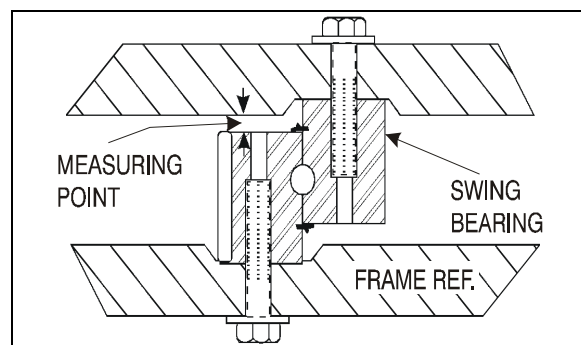
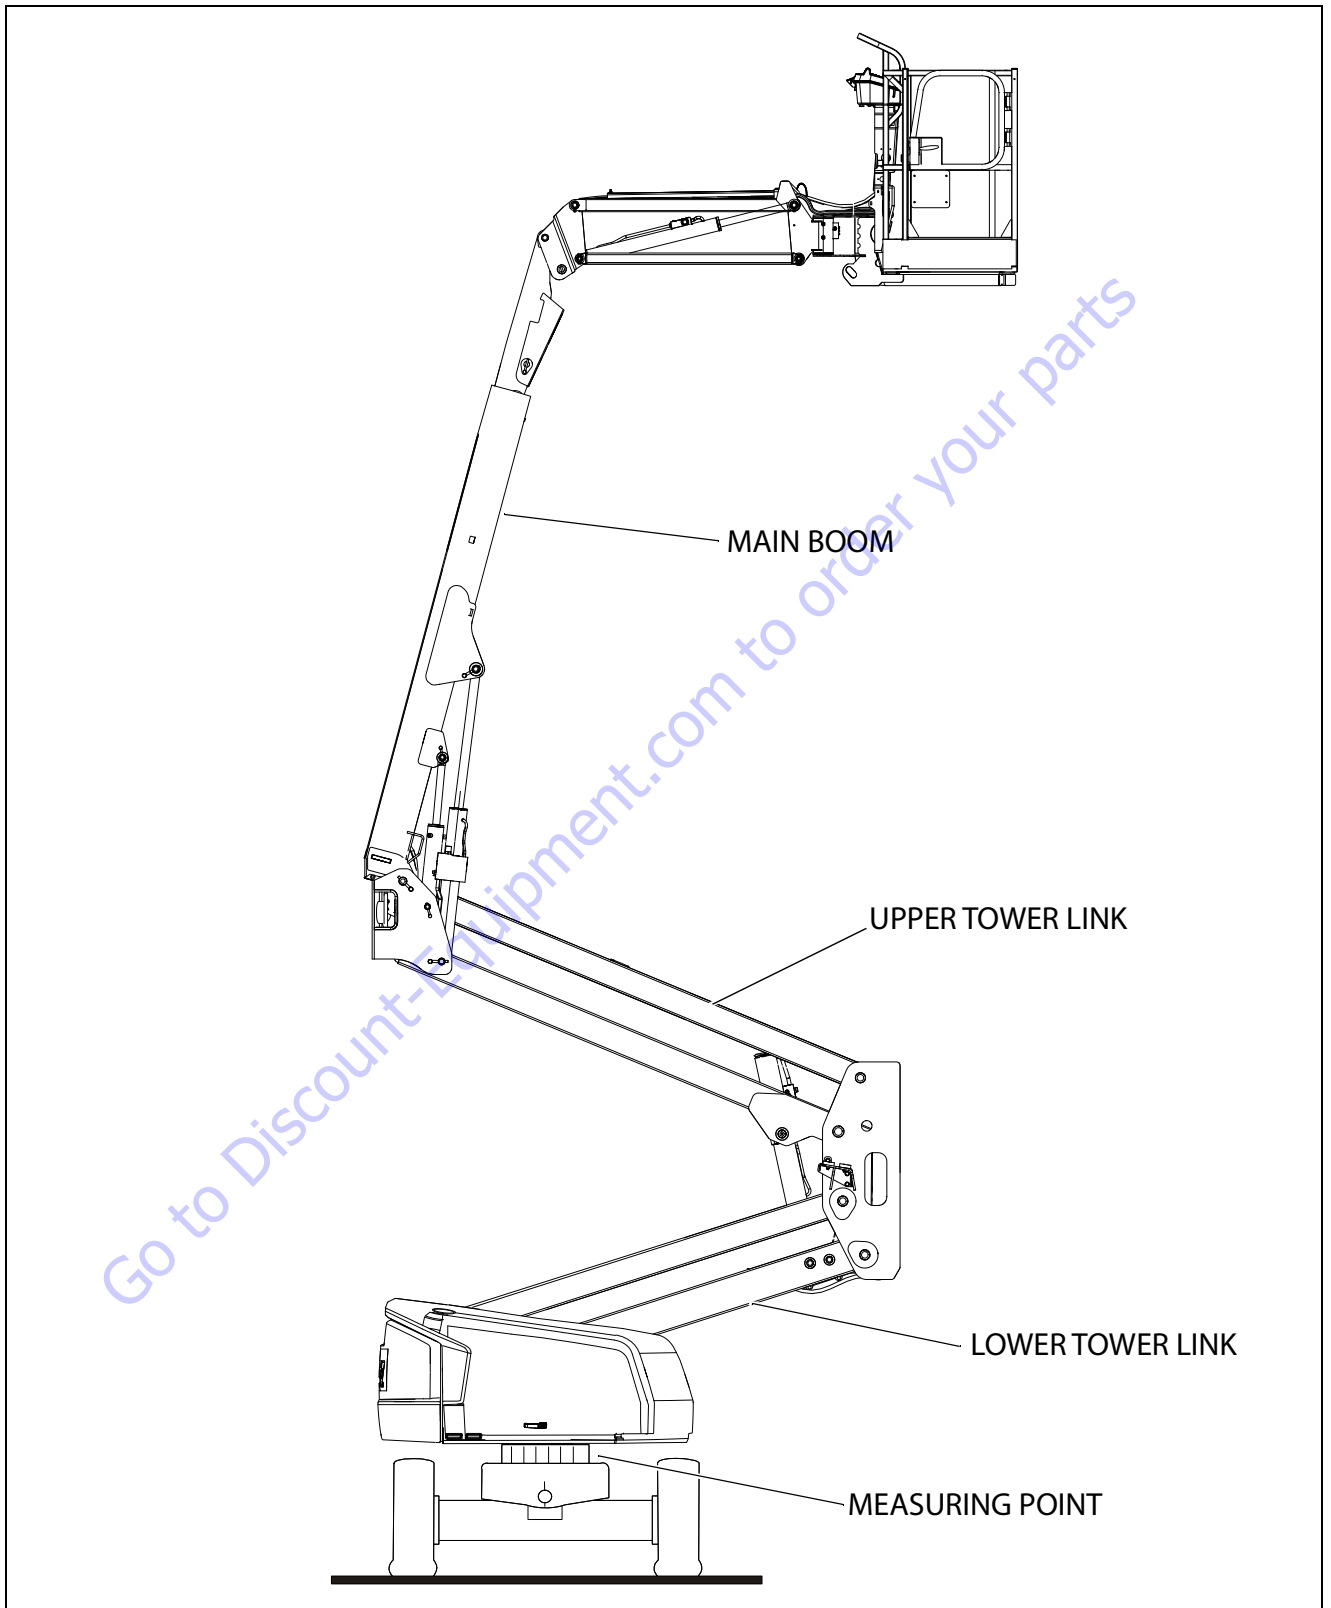
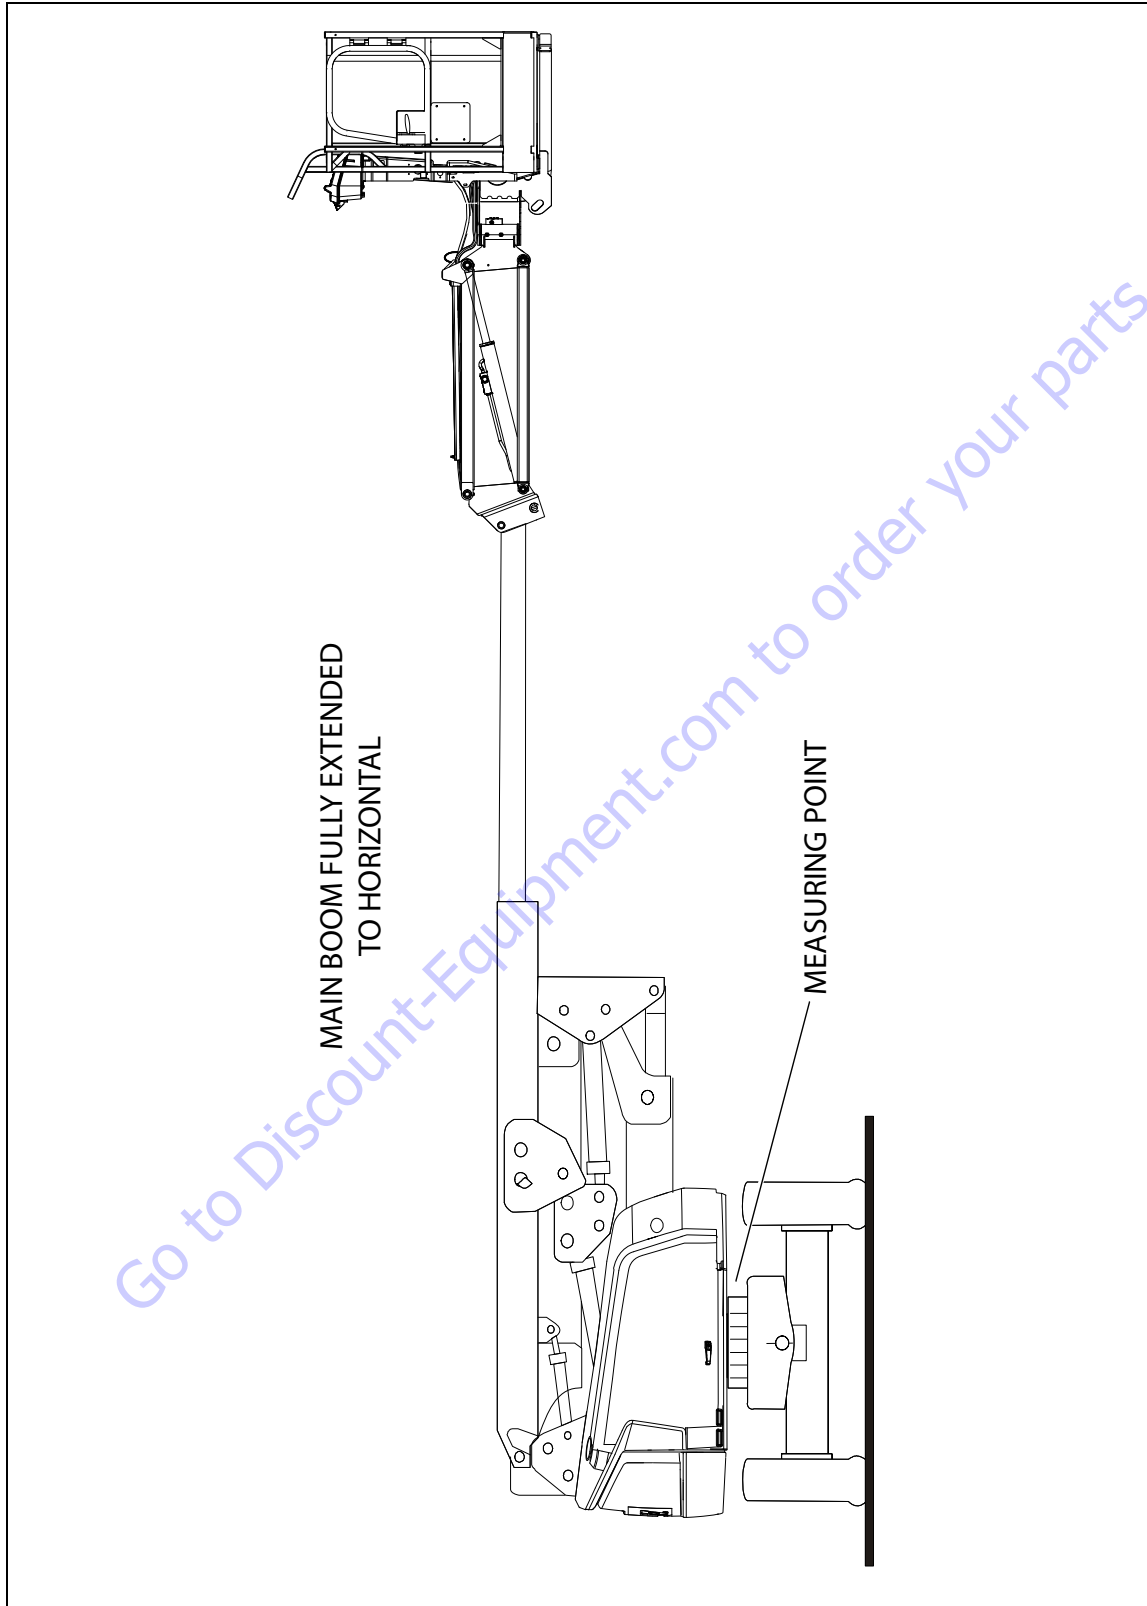

Figure 3-39. Swing Bearing Tolerance Measuring Point
Figure 3-40. Swing Bearing Tolerance Boom Placement - Sheet 1 of 2
Figure 3-41. Swing Bearing Tolerance Boom Placement - Sheet 2 of 2
- a. Elevate the fully extended main boom to horizontal as shown in Figure 3-41.
- a. Elevate the fully retracted main boom to full elevation as shown in Figure 3-40.
1. With the boom positioned over the side of the machine, the Main Boom horizontal with telescope fully extended and Tower Boom stowed, (See Figure 3-41.), using a magnetic base dial indicator, measure and record the distance between the swing bearing and turntable. (See Figure 3-39.)
2. At the same point, with the boom positioned over the side of the machine, the Main Boom fully elevated and the Tower Boom fully elevated, (See Figure 3-40.) using a magnetic base dial indicator, measure and record the distance between the swing bearing and turntable. (See Figure 3-39.)